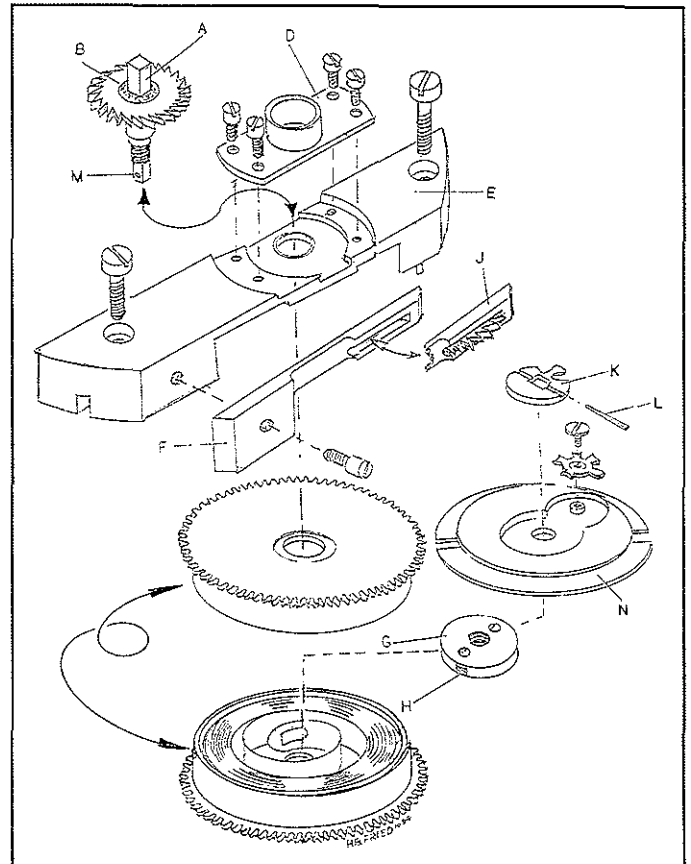

Figure 3. Hanging barrel system in mid-nineteenth century parallel-bridge movements.
In the model used in Figure 3, the ratchet click (F) is slotted as shown in the detailed view (J). Therefore, it is best to first dismantle the click. In these older watches screws were of different sizes and character and weren't interchangeable, so place the dismantled screws close to the parts they secured for easier and quicker reassembly. Remove the four screws and the ratchet cover (D), also keep these screws close to the parts they secure.